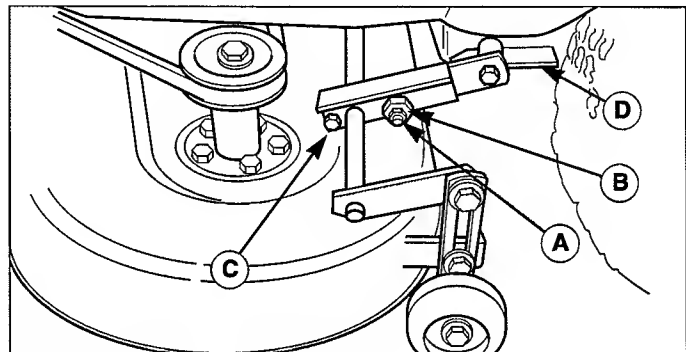

Figure 27. Side-to-Side Adjustment
5. See Figure 27. Loosen the outside nut (A) and tap-tite screw (C), then turn the eccentric nut (B) to raise or lower the left side of the deck. When the mower deck is level, hold the eccentric nut while tightening the outside nut. Tighten the tap-tite screw (C).